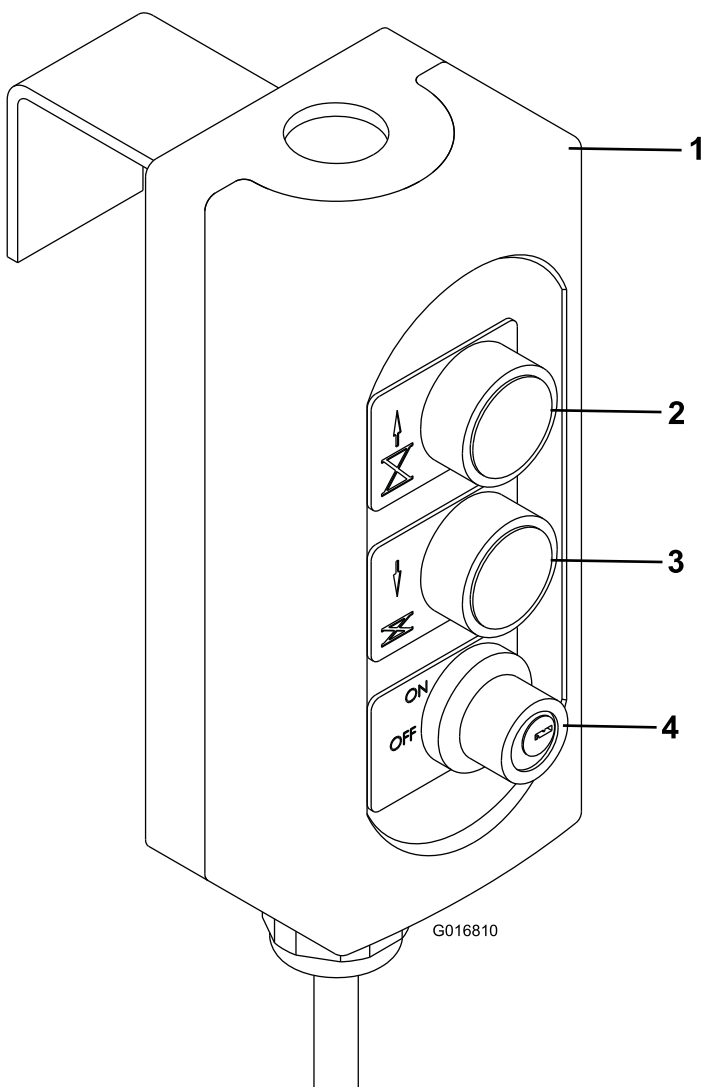

Figure 19
5. Press "UP" button to raise lift; "DOWN" button to lower lift (Figure 19).